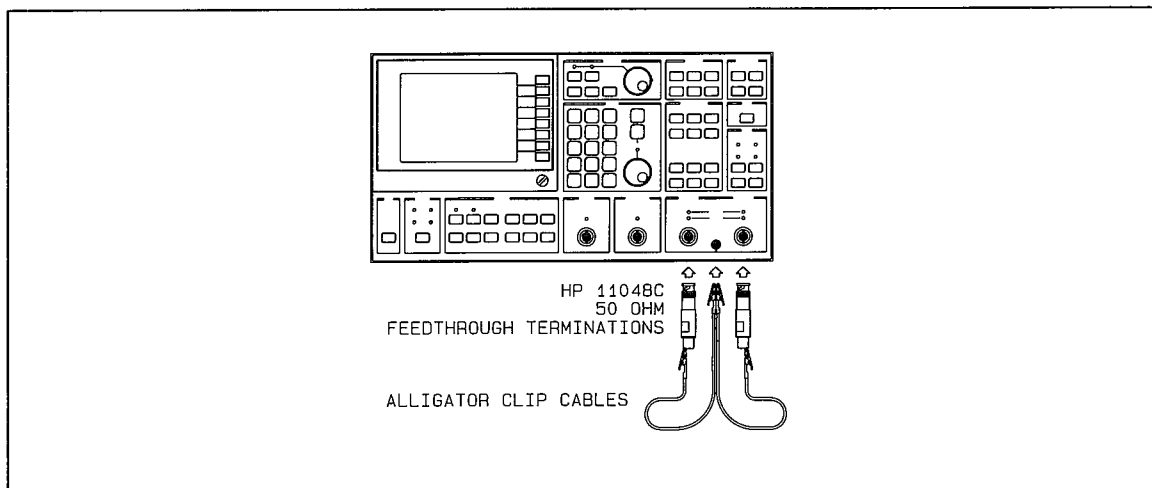

Figure 2-25 Noise and Spurious Signal Level Test Setup
A. Connect the test instruments as shown in figure 2-25. Keep the leads from the feedthrough terminations to chassis ground as short as possible.